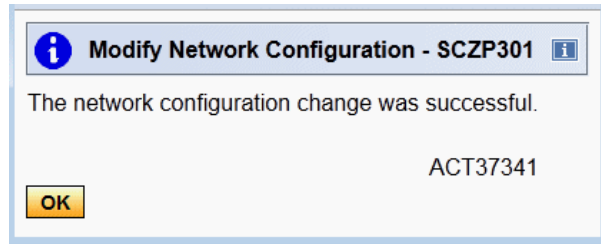

Figure 4-17 Configuration change confirmation - ACT37341
6. Select **OK** on the final confirmation message (Figure 4-17 on page 117).